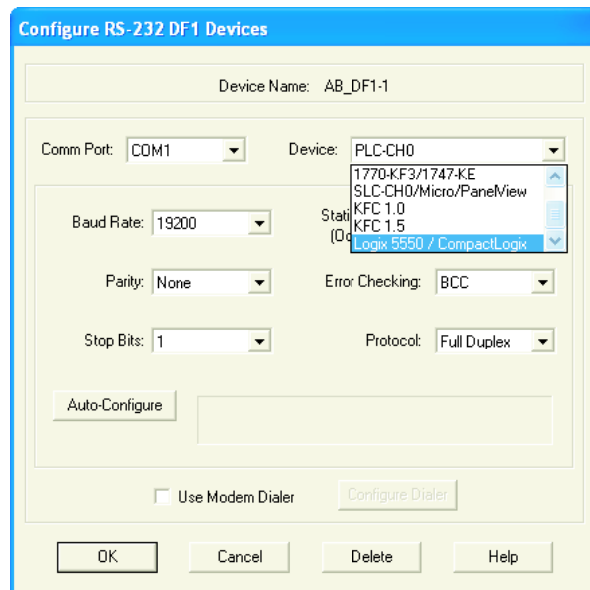

Figure 79 Configure RS232 DF1 Devices
7. Click on 'Add New' and enter a suitable Driver Name in the pop-up window that then appears. Click on 'OK'. The 'Configure RS-232 DF1 devices' window opens (Figure 79).